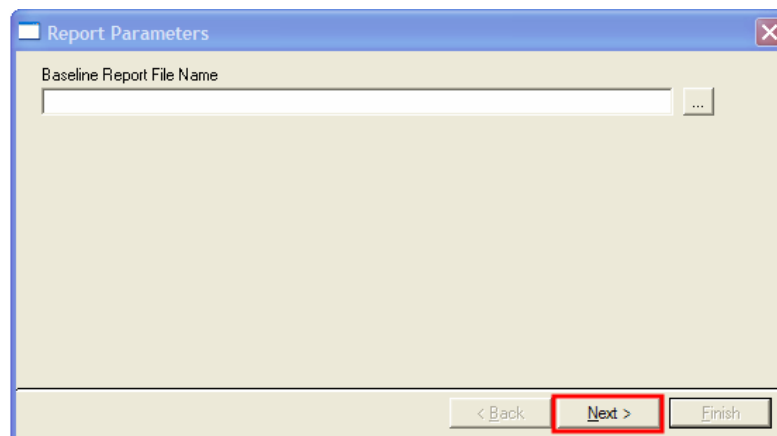

Figure 12: Report Parameters Dialog Box
- The **Report Parameters** dialog box appears as shown in Figure 12.